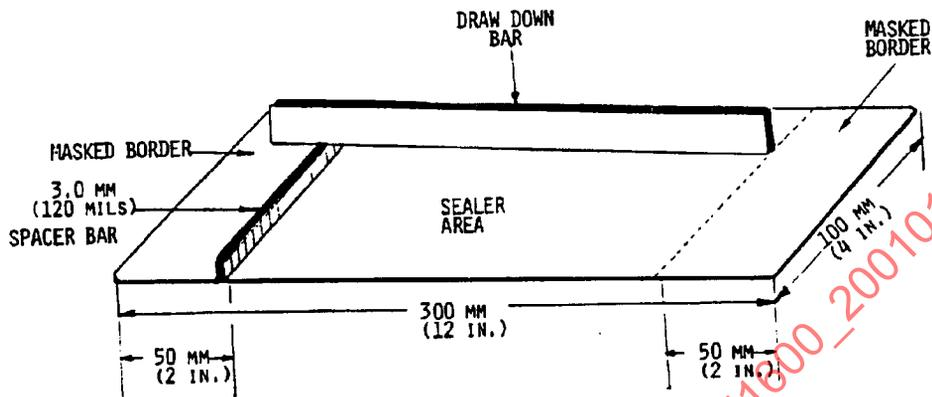

FIGURE 1—METHOD "A"
6. Panel Preparation—Method A (see Figure 1.)
6.1 Mask the desired number and type of 100 mm x 300 mm (4 in x 12 in) panels as shown in Figure 1.